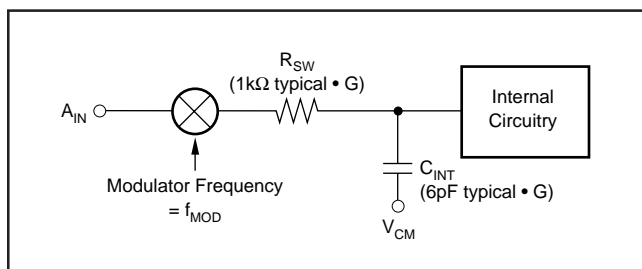

FIGURE 1. Analog Input Structure.
Figure 1 shows the basic input structure of the ADS1250. The analog input impedance is directly related to the sampling frequency of the input capacitor (f_{MOD}), and the gain setting (G) of the device. The sampling frequency of the input capacitor is derived from the system clock (CLK). Therefore, a lower CLK rate decreases the sampling frequency, which results in a higher analog input impedance.